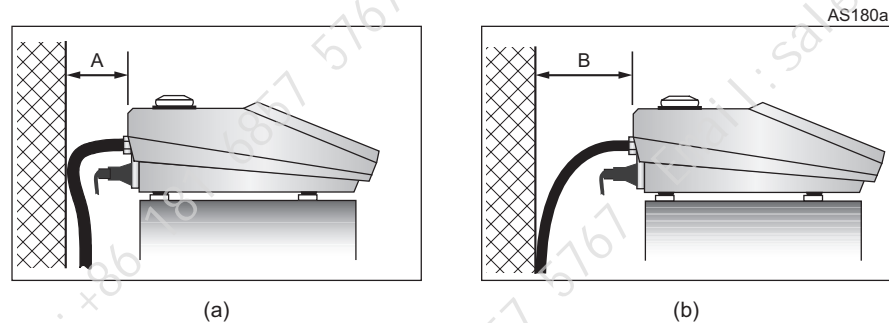

Figure 3. Printer cabinet installation
In Figure 3 (a), there is only a small distance (A) between the wall and the printer. The bend radius of the conduit is less than the minimum allowed (75 mm). In Figure 3 (b), the distance (B) is larger and the conduit has a larger bend radius, as shown.